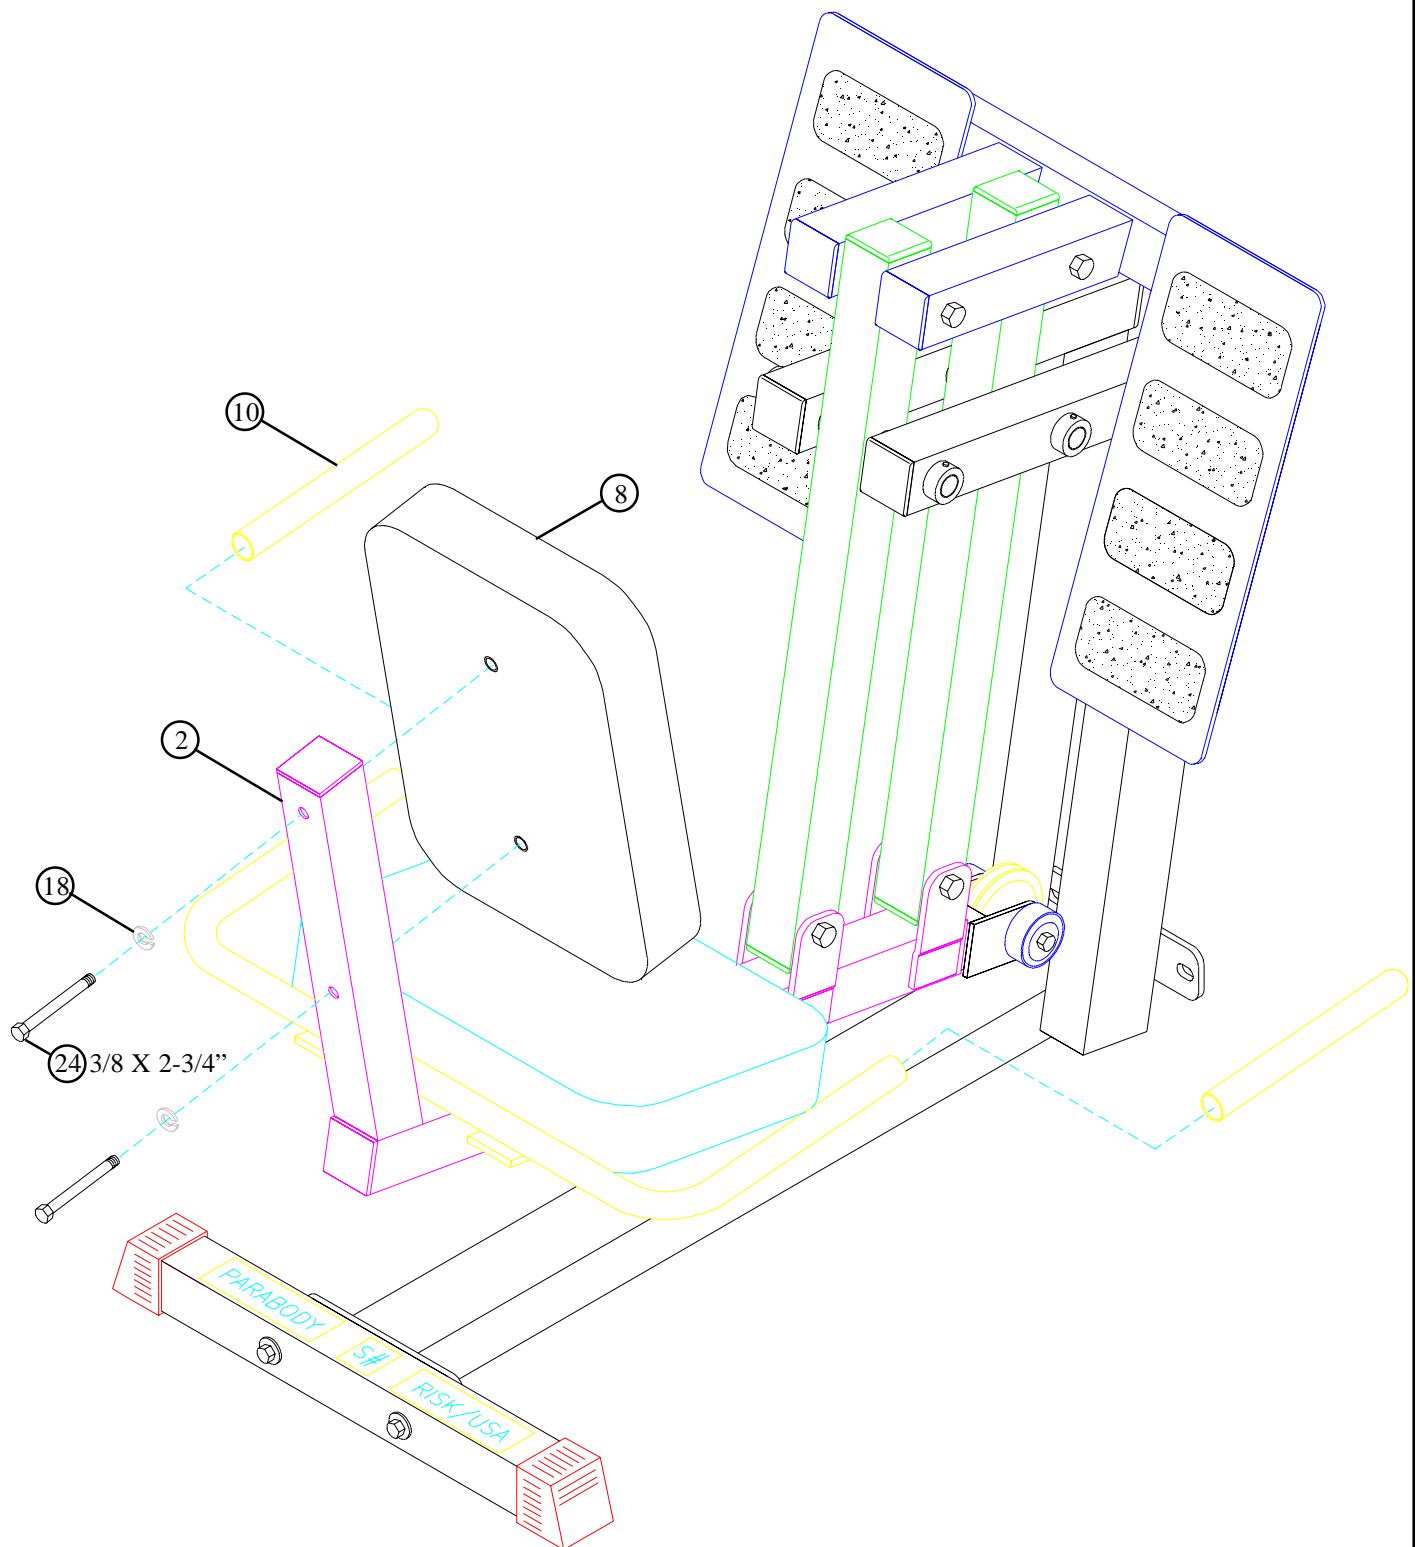

**FIGURE 10**
- **SECURELY** assemble the SEAT PAD (8) to the HANDLE (6) and the SEAT FRAME (2) using two 3/8 X 1-1/2" BOLTS (23), two 3/8" LOCK WASHERS (18), and two 3/8" FLAT WASHERS (17). See FIGURE 10.